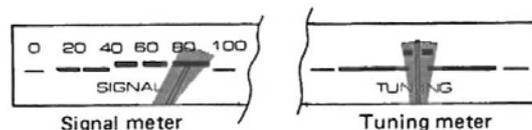

Fig. 7
4. Turn the tuning knob to select the desired station. Operate the tuning knob so that the signal meter pointer deflects toward the far right and also the tuning meter will indicate the center of the scale, as shown in Fig. 7. When a stereo program is being received, the stereo indicator comes on; if a monaural program is being received, this indicator will remain off.